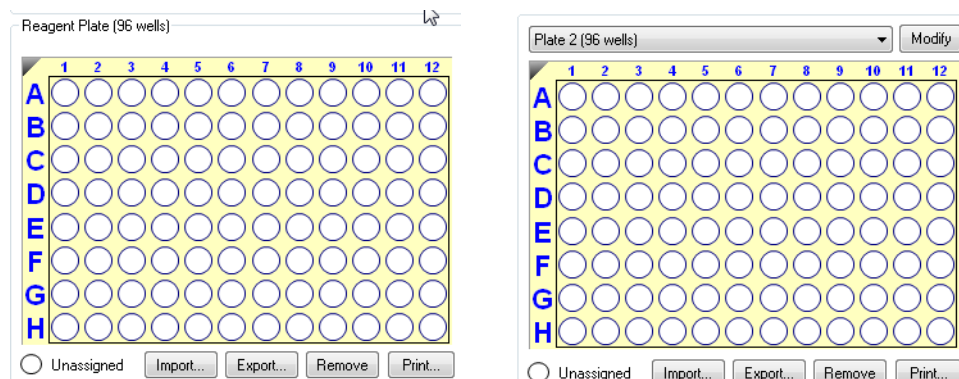

Figure 10-32: Reagent Plate/Plate 2 Print Button
1. In the **Reagent Plate/Plate 2 Map** (see Figure 10-32), click **Print**.